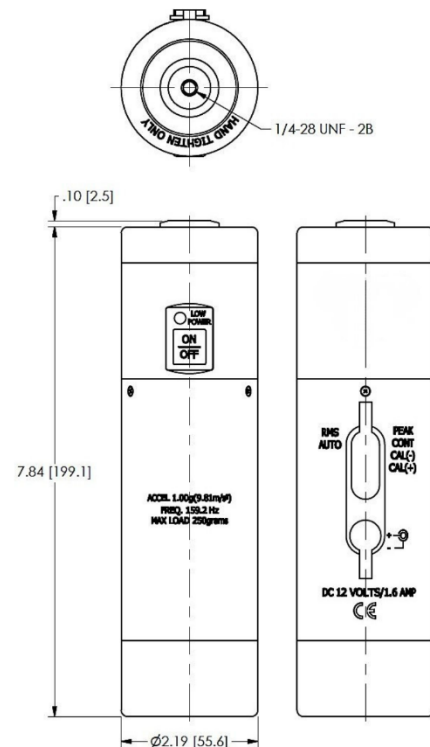

Figure 3. REF1500 features and dimensions
- **Continuous use option switch:** To prolong the useful life of the batteries, the REF1500 automatically switches off after 80 seconds. To change between auto shutoff and continuous run, depress the corresponding side of the rocker switch in the options cavity of the shaker, per Figure 3. In this mode, once the shaker is turned on, it does not shut off until the ON/OFF button is depressed a second time.
- **Calibration check points:** Calibration of the internal feedback circuit can be verified via test points located in the options cavity. See Figure 3. The measured value in volts AC should agree with the calibration certificate. This is useful for quick field check of unit integrity, such as if the shaker is dropped and a reference standard is not immediately available. This test is not a guarantee of shaker function. If the data does not agree with expected values, the shaker should be checked with a calibration standard before continued use.
- **Low power indicator:** An LED indicator light is located above the ON/OFF switch. See Figure 3. The LED light notifies the user when the battery condition falls below operational levels. This indicator does not signify erroneous data. The LED indicator signifies an imminent inability to drive the mass on the shaker because the test sensor is too heavy, the batteries are low on power, or the external power supply is inadequate. If the handheld shaker cannot obtain 1 g at 159.2 Hz, then the unit shuts off.
7. To change between RMS and peak, depress the corresponding side of the rocker switch in the options cavity of the shaker, shown in Figure 3. For example, to choose RMS, depress the left side of the rocker switch.